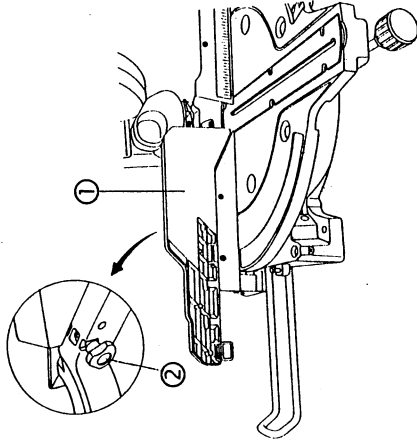

Fig. 6
1. For mitre cuts, install the Extension Fence ① close to the saw blade and tighten the lock knob ②. (Fig. 6)